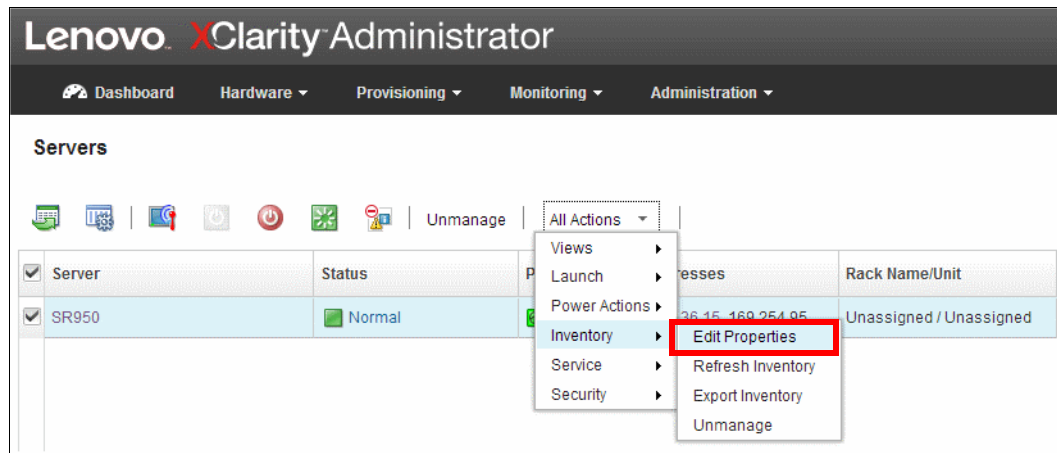

Figure 7-9 Edit properties of the server
8. Set the servers information **Actions** → **Inventory** → **Edit Properties**, as shown in Figure 7-9 on page 230.